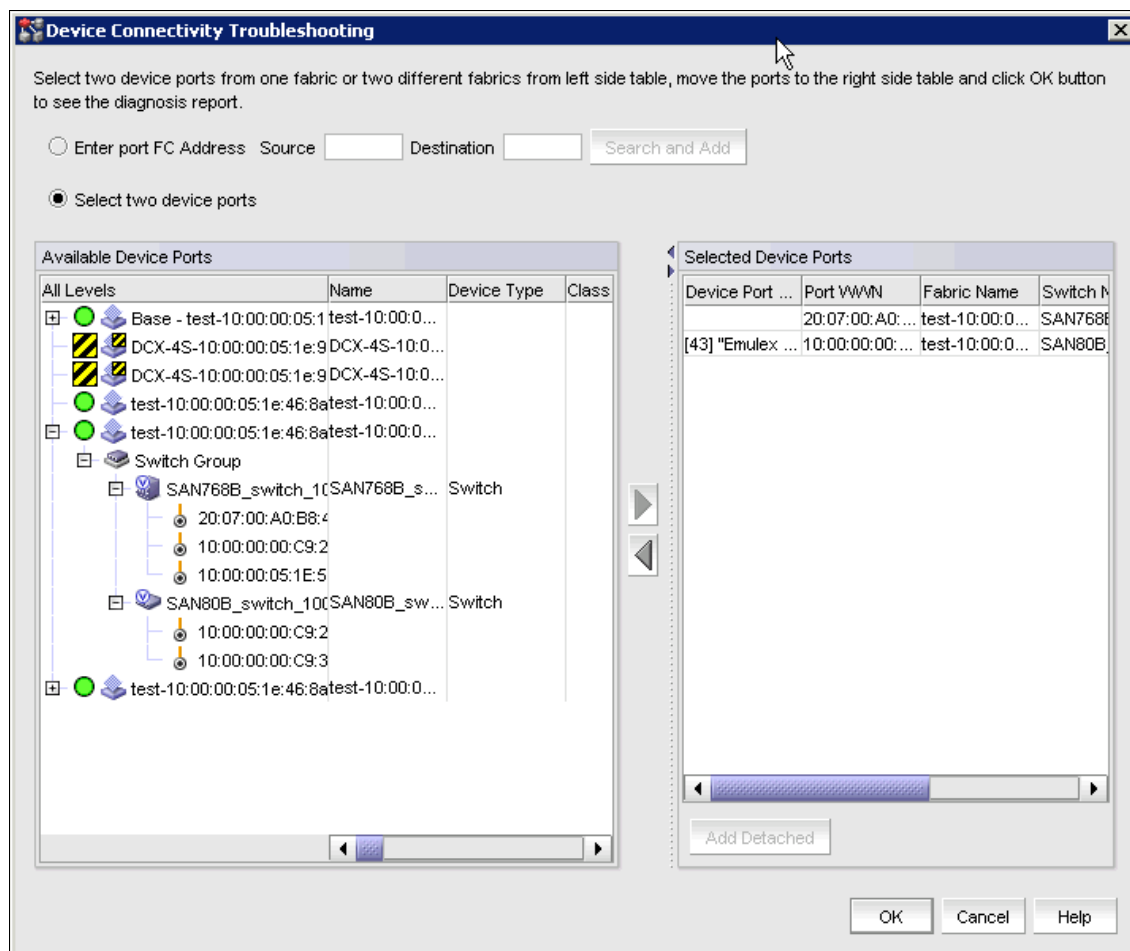

Figure 17-30 Wizard start
2. The wizard opens, as shown in Figure 17-30. The dialog is self explanatory. Select the device ports you want to troubleshoot, and click **OK**.